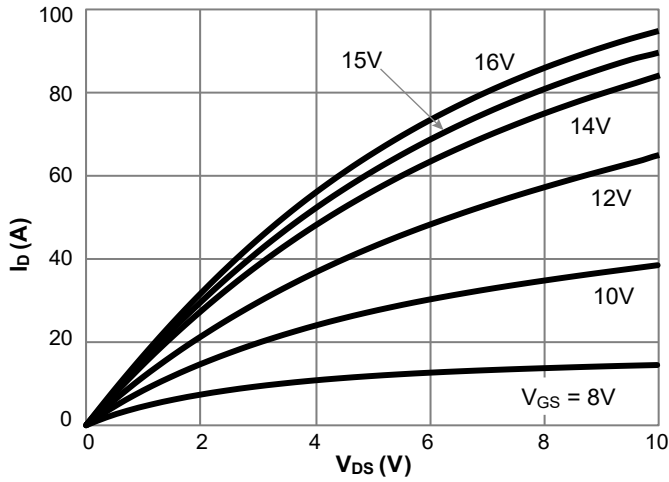

Figure 1. On-Region Characteristics  $T_J = 25^\circ\text{C}$
H. The static characteristics in Figures 1 to 8 are obtained using <300ms pulses, duty cycle 0.5% max.